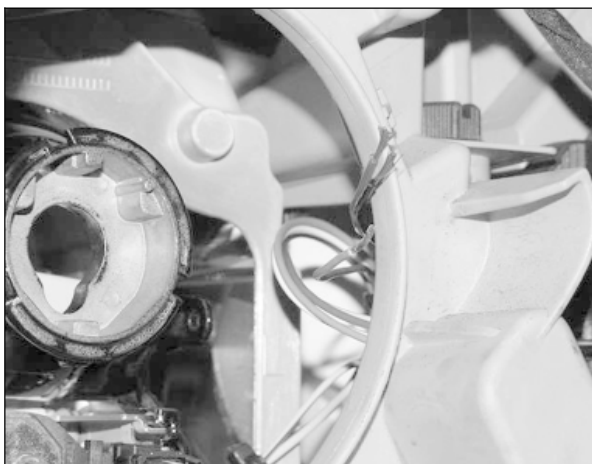

Figure 4
- 7.9 Individually cut off the 3 supply lines (red, black and green) as close to the ignition module as possible (Figure 4). This shuts down the ignition module at the headlamp.